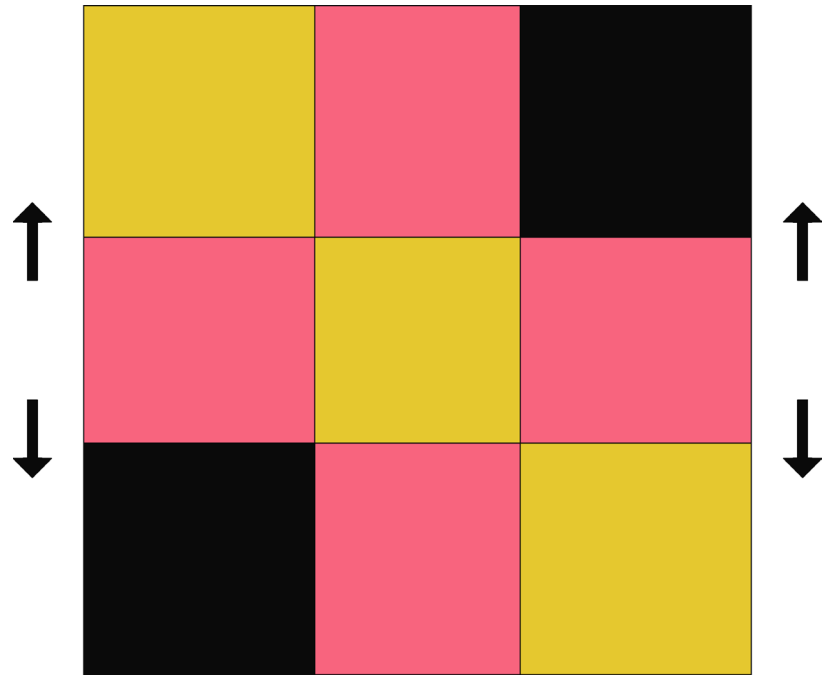

Figure 20
22. Stitch the rows together, pressing the seam allowances as indicated, spinning the seam allowances as appropriate (see note below), to complete the block. (Figure 20)